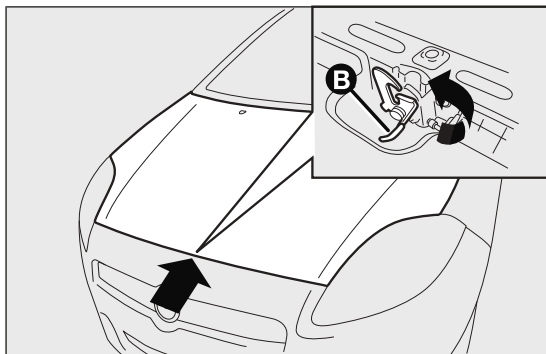

fig. 85
- pull lever B fig. 85 and lift the bonnet.